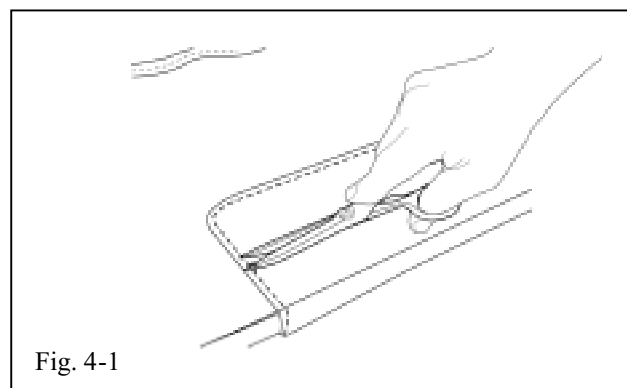

Fig. 4-1
(1) Turn the mask over to show the white flannel backing. With scissors, carefully cut just the blue stitching that attaches the license plate flap to the back of the mask. (Fig. 4-1.)